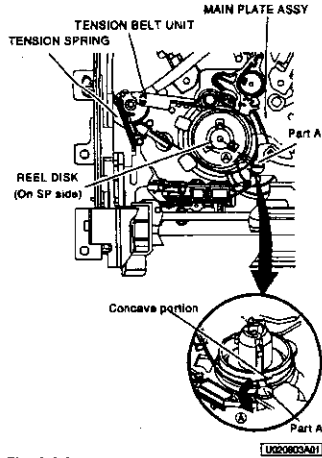

Fig. 2-8-3
2. Move the part A of the MAIN PLATE ASSY shown in Fig. 2-8-3 in the direction shown by arrow with a minus driver, etc.
- Fasten the TENSION BELT UNIT around the part shown in Fig. 2-8-3 of the REEL DISK (On SP side).
- Move the part A of the MAIN PLATE ASSY in the opposite direction of arrow (C) to let it enter the concave portion of the TENSION BELT UNIT as shown in Fig. 2-8-3 so that it points to the centre of the REEL DISK (On SP side).